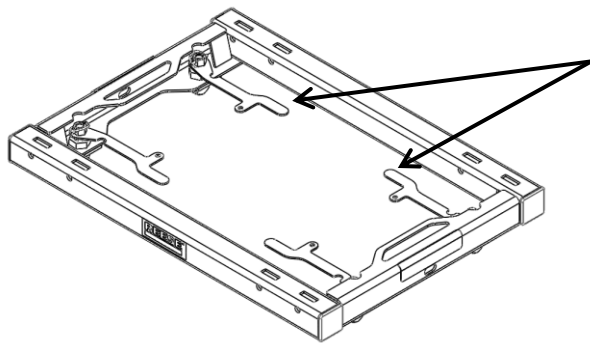

Figure 3a. Anchor handles in unlocked position
- Place unit into pucks with all handles in unlocked position (see Figure 3a). Rotate handles into locked position. It is normal for some of the handles to have very little resistance, while others have a moderate amount of resistance when locking. Should a handle not be able to be locked by hand; it needs to be adjusted.
2. Set REESE mounting adapter onto the pucks, and rotate handles into unlocked position (approximately parallel with base tube, (Figure 3a) until adapter drops into pucks on all (4) corners.
2. Rotate (4) handles into unlocked position (parallel with base tube, Figure 3a). Lift each side of adapter out of pucks separately, handles may have to be worked slightly to align anchors with puck holes to remove.